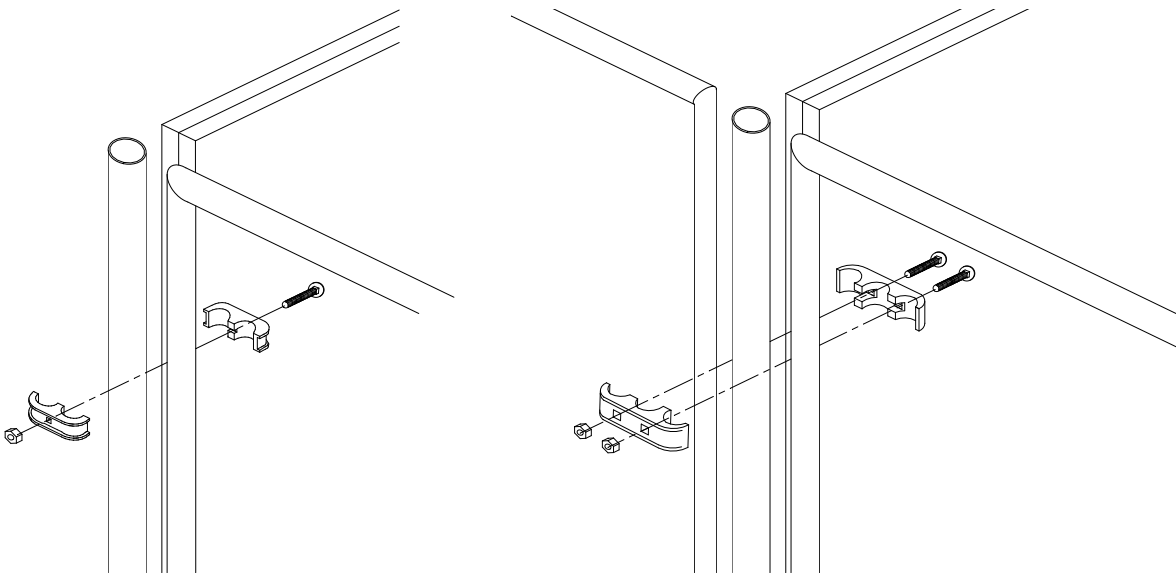
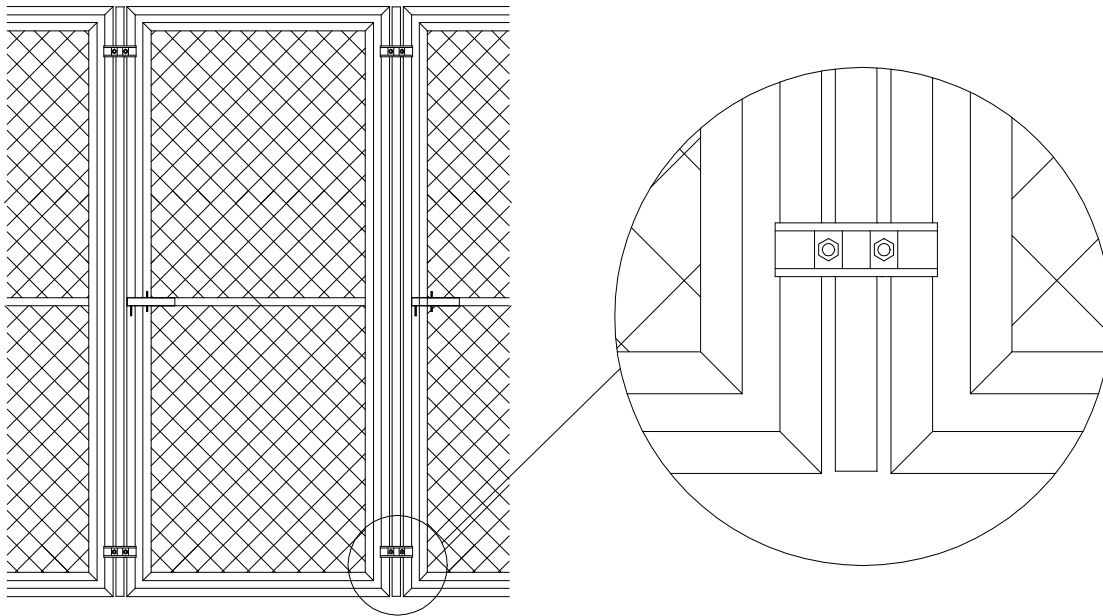

Figure 12
Figure 13
2. Attach the gate/stall front on the front of each run between the filler pipes with two clamps on each side using the 5/16" x 1-1/2" bolts and nuts provided as shown in Figure 12. Note: It takes two halves to make up one clamp. Attach gates / stall fronts to outside division panels using "panel clamps". All other gates/stall fronts will use "triple clamps". **To help ensure the safety of the animals the round head of the bolt should be assembled toward the inside of the run.** Note: The triple clamps attach two gates/stall fronts together. Therefore, you will have to hang two gates/stall fronts at the same time (see Figure 13).